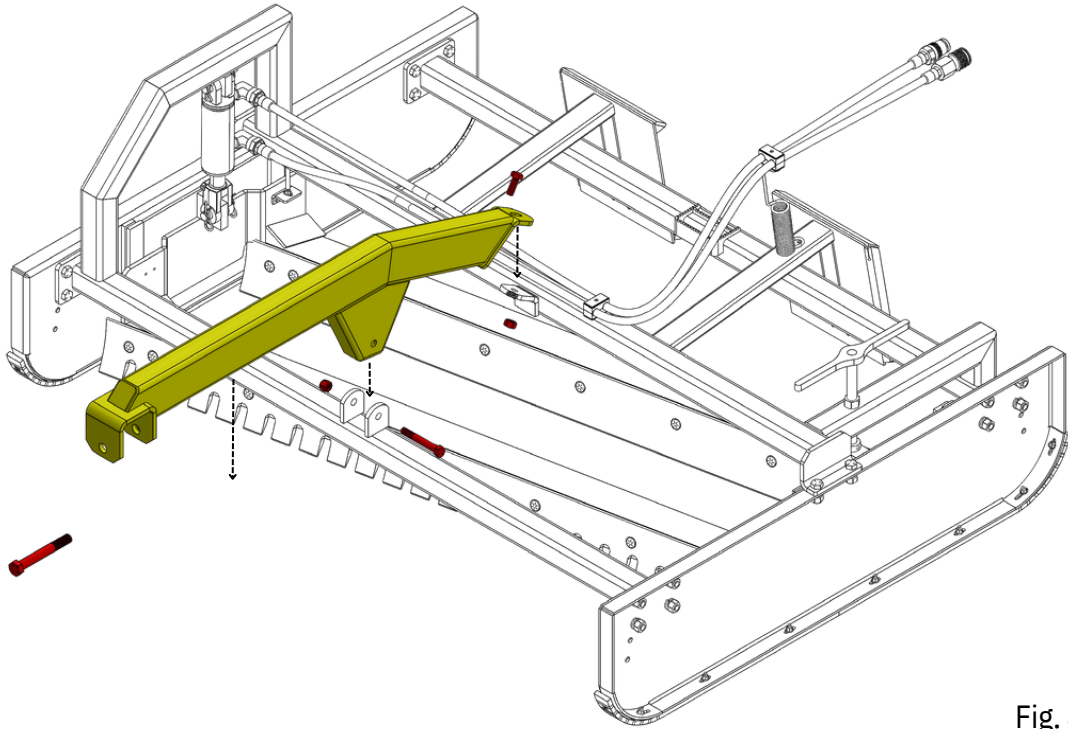

Fig. 4
- Lift the Tube Frame into position (fig.4)